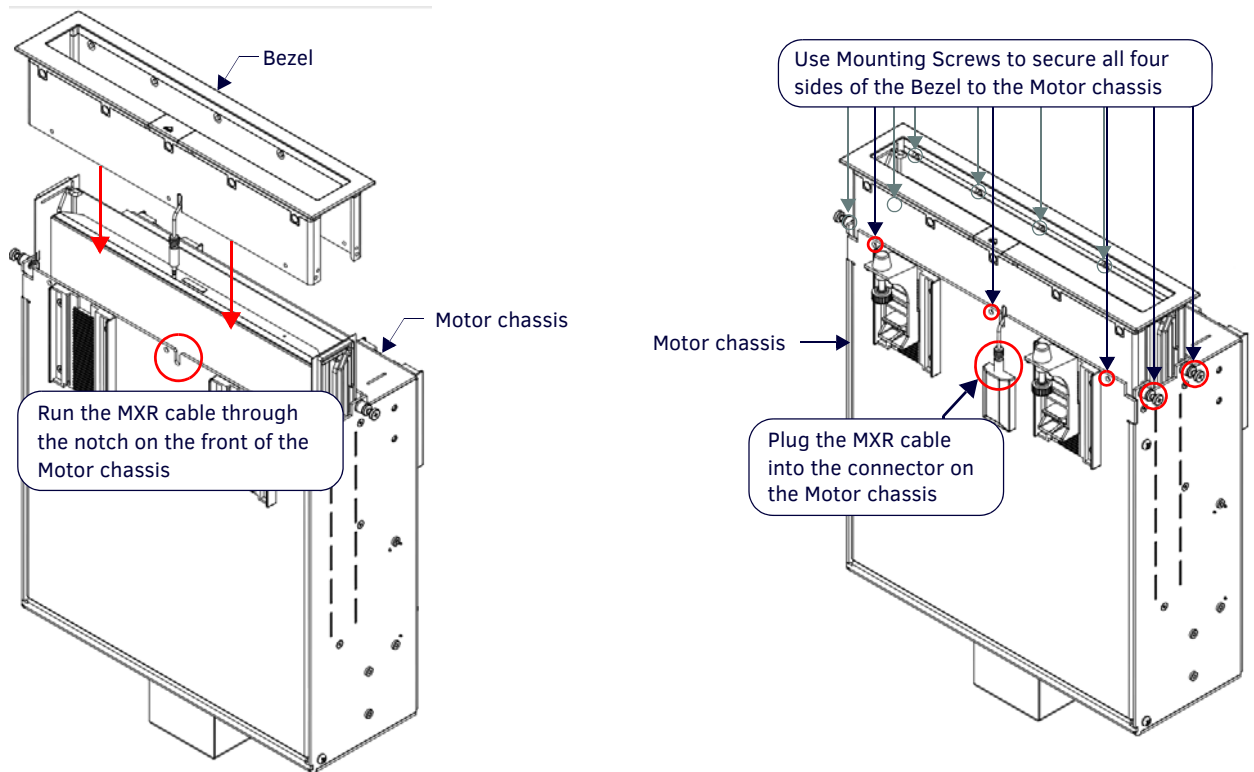

FIG. 14 Attaching the Bezel to the Motor Chassis
1. Before the MXR-1001 can be installed, the Bezel must be separated from the Motor chassis: Remove the 11 screws (3 on the front, 4 on the back, and 2 on each side), unplug the MXR cable, and lift the Bezel off of the Motor chassis (FIG. 14):
7. Secure the Bezel to the Motor chassis using all 11 supplied mounting screws - there are 3 mounting holes on the front, 4 on the back, and 2 on each side (FIG. 14):